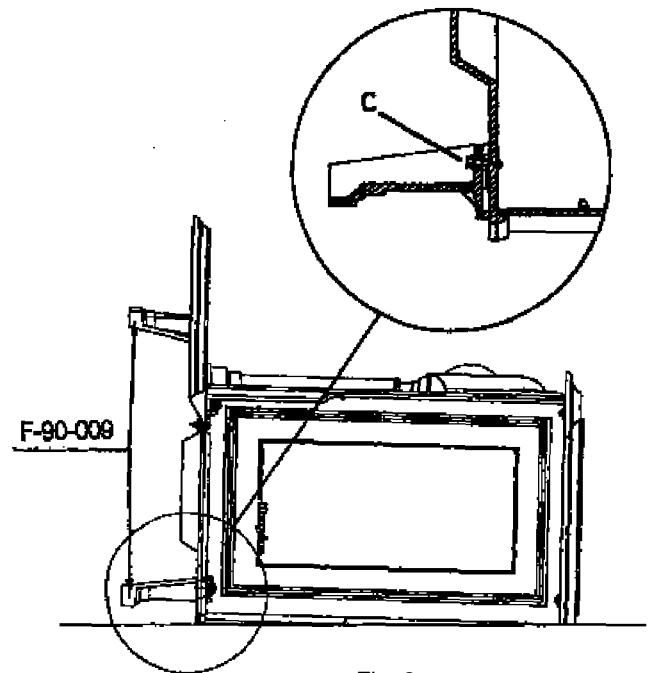

Fig. 3
4. Fit legs (F-90-009) inside the housings of tray (F-90-007) and to the bottom (F-180) (1), holding them in place with M.8x15 screws and washers. See Fig. 3, (Detail "C").